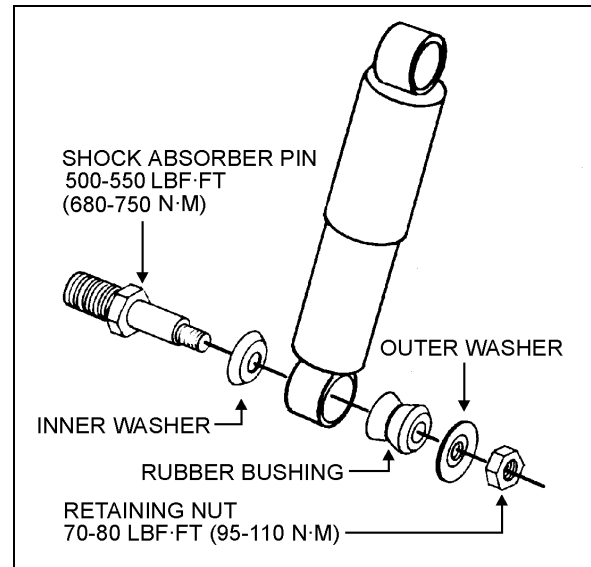

FIGURE 42: SHOCK ABSORBER
1. Remove nuts and washers from shock absorbers on upper and lower mounting pins, taking care to identify the inner and outer washers to ease reinstallation. Refer to figure 42 for details.